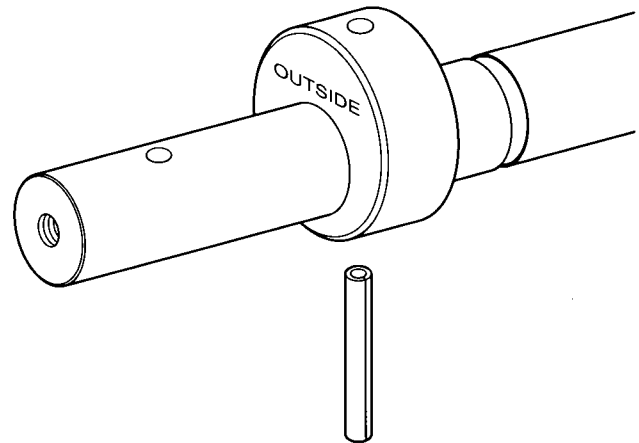

Figure 43 — Proper orientation of eccentric and insertion of spring pin.
6. **Fasten eccentric to shaft** with spring pin. The side marked "OUTSIDE" should face short end of shaft (Figure 43). Drive spring pin thru narrow side of eccentric until slightly recessed.